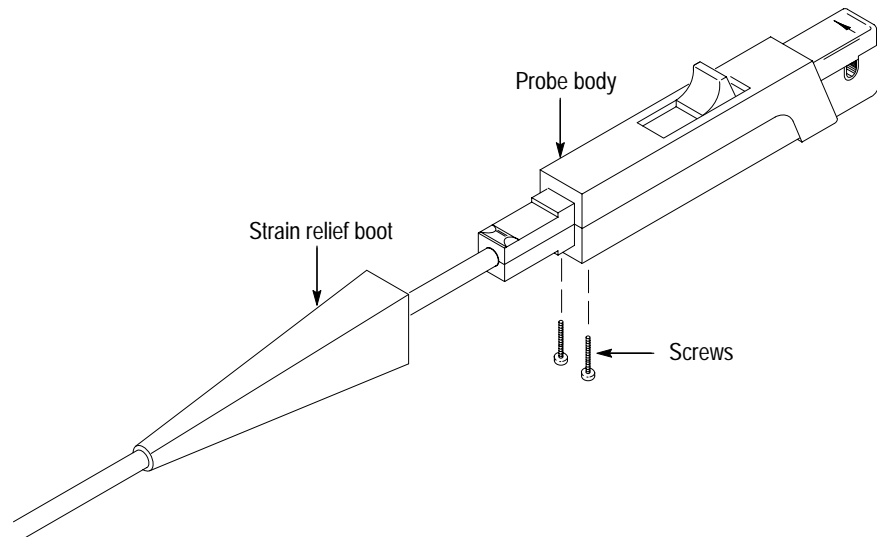

Figure 8: Removing the strain relief boot
1. Remove the two screws from the bottom of the probe and pull the strain relief boot back as shown in Figure 8.